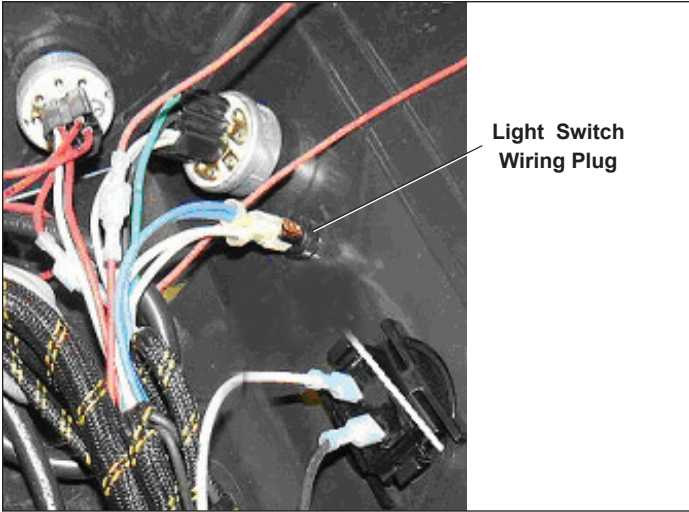

Figure 8-12. Light Switch Wiring
4. Reconnect wires to back of switch (Figure 8-12).